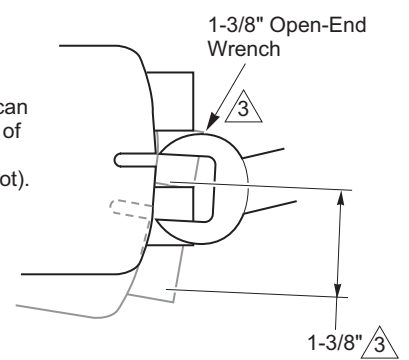

Figure-6. Mounting Mx40-704x on 3-Way Valves and Setting up Actuator/Linkage/Valve Assembly.
2. Install the actuator onto the linkage and 3-way valve, and set up the assembly, according to Figure-6 below.
- ① **Caution:** When used on a VB-9xxx or similar 1/2" to 1-1/4" (15 mm to 32 mm) valve body, push the valve stem all the way down and adjust the rack to get at least 1/32" (1 mm) clearance above the top of the packing. Use only 35 lb-in. (16 N-m) Mx40-704x actuators on obsolete valves. Stem or plug damage may result from using actuators with higher output torques.
- ② Mx40-704x actuators are shipped at the end of stroke, without preload.
③ **Tip:** A 1-3/8" open-end wrench can be used to measure the amount of rotation (approx. 10°, measured between opposite sides of the slot).
- ⑤ Apply power to the actuator to rotate it CCW into alignment with the mounting plate, then slide the anti-rotation stud halfway into the slot on the bottom of the actuator. Tighten the nut on the anti-rotation screw.